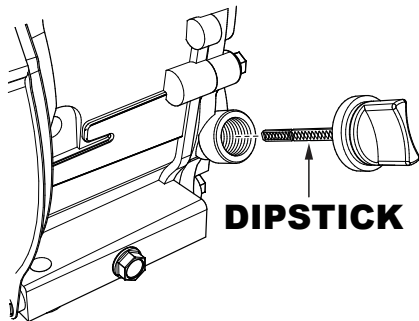

Figure 4. Engine Oil Dipstick (Removal)
2. Remove the filler dipstick from the engine oil filler hole (Figure 4) and wipe it clean.